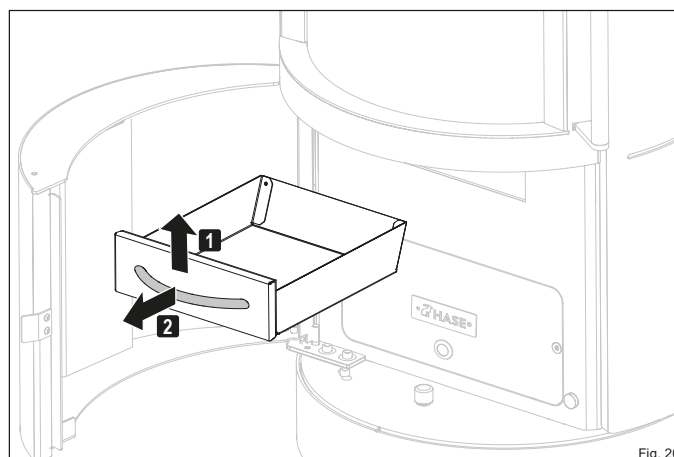

Fig. 20
- ▶ Pull the ash drawer out of the opening by the cover (Figure 20).
- ▶ Pull the ash drawer out of the opening by the cover (Fig. 20). Empty the ashes into a fireproof container or vacuum out the drawer.
- ▶ Pull the ash drawer out of the opening by the cover (Fig. 20).